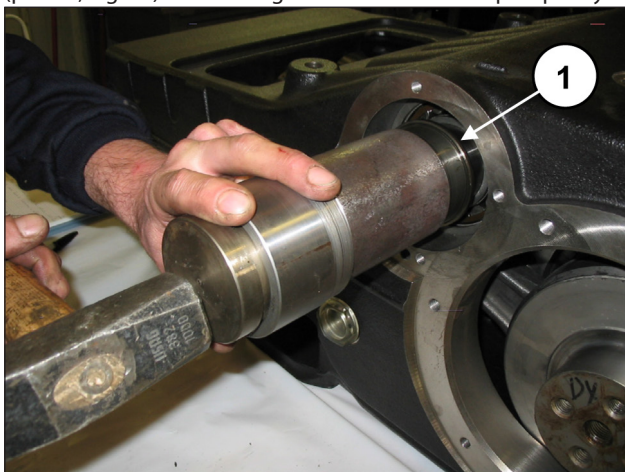
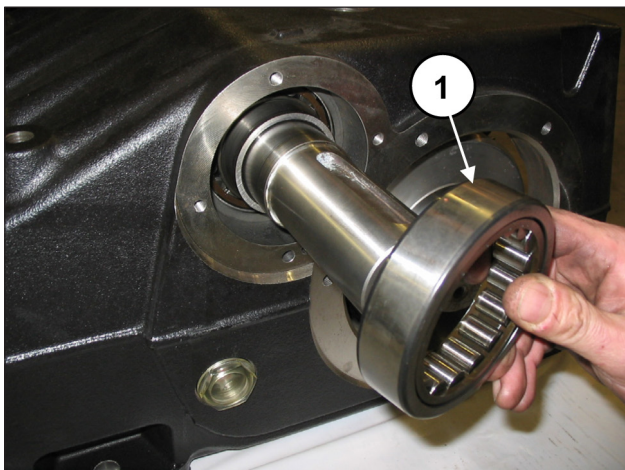

Fig. 61
Fig. 62
Insert the internal ring (pos. ①, Fig. 61) and external ring (pos. ①, Fig. 62) of a bearing from one side of the pump only.
Insert the internal ring (pos. ①, Fig. 61) and external ring (pos. ①, Fig. 62) of the last bearing.